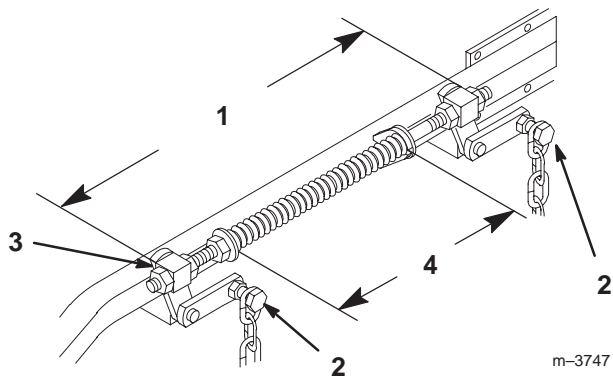

Figure 58
6. Loosen the 4 top chain bolts in slots. Check the length of the rod/swivel assemblies. Distance from outside of rear swivel to outside of front swivel should be 19–17/32 in. (496 mm) (Fig. 58). Make sure that all four swivels move freely in holes.
2. Springs are compressed so the distance between the two large washers should be 11 in. (279 mm) (Fig. 58).
3. Adjust by turning nut in front of each spring (Fig. 58). Clockwise will shorten spring; counterclockwise will lengthen spring.